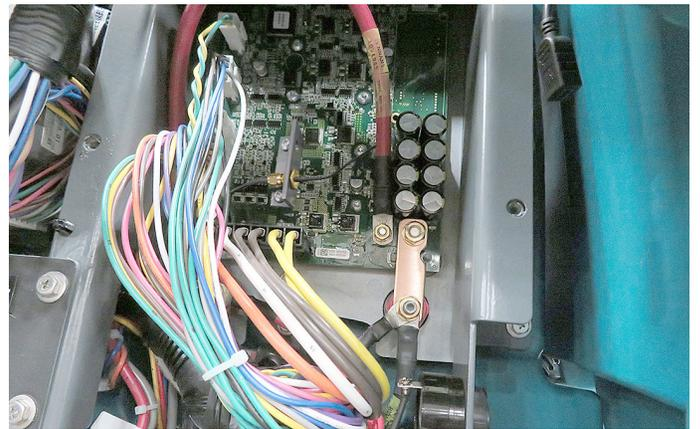

Fig. 9
- Reconnect the wire connectors, bus-bar and red cable to the new IRIS circuit board (Figure 9). Torque specs: 9 Nm (6.6 lb-ft)